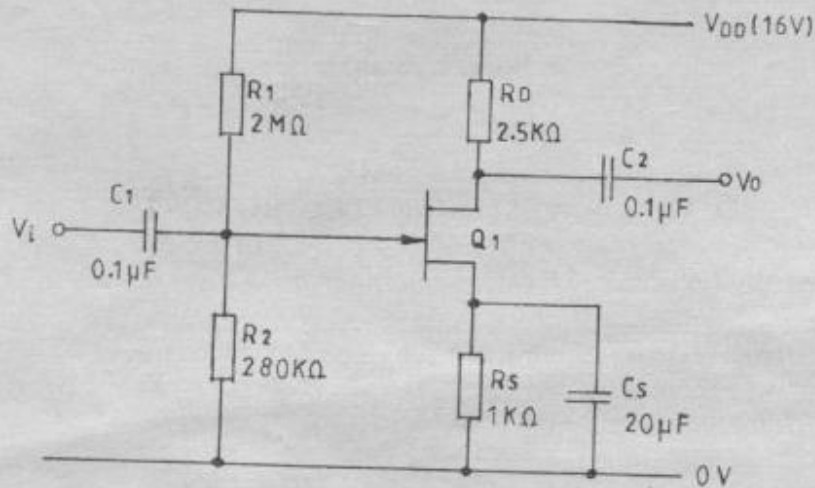

Fig. 4
- (b) Figure 4 shows a circuit diagram of a JFET amplifier while table 2 shows the variation of drain current (I_D) with gate-source voltage (V_{GS}) for the JFET.